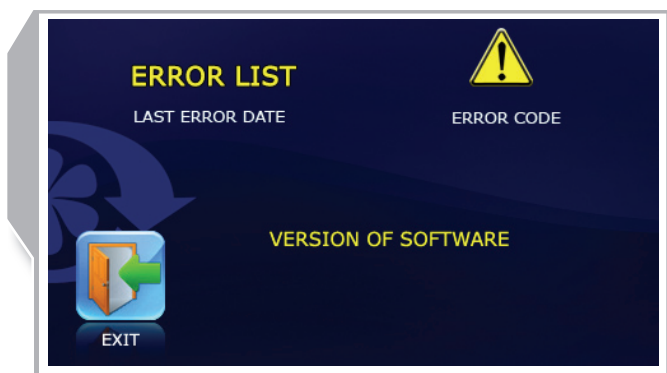

Fig. 27. Error control
- An error date and code will be displayed (fig. 27).